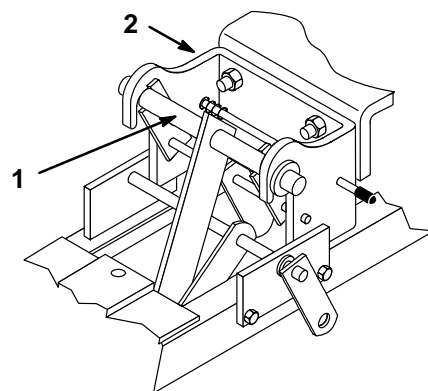

Figure 9
8. Open front hitch and slide front lift rod of blade into tractor front hitch. Close and lock front hitch (Fig. 9).